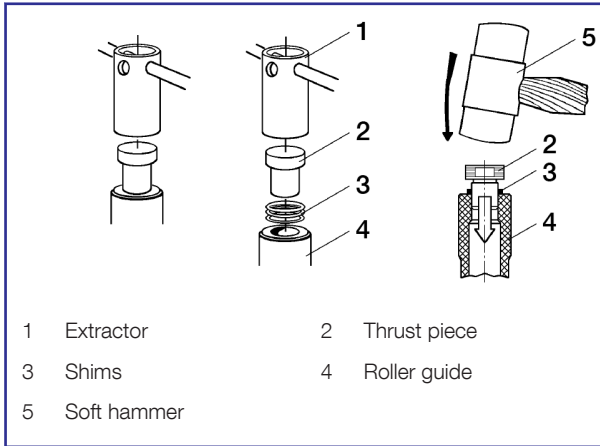

Figure 4: .
After replacement of shims the thrust piece is remounted, see fig 4, in the roller guide (4) with a soft hammer (5).